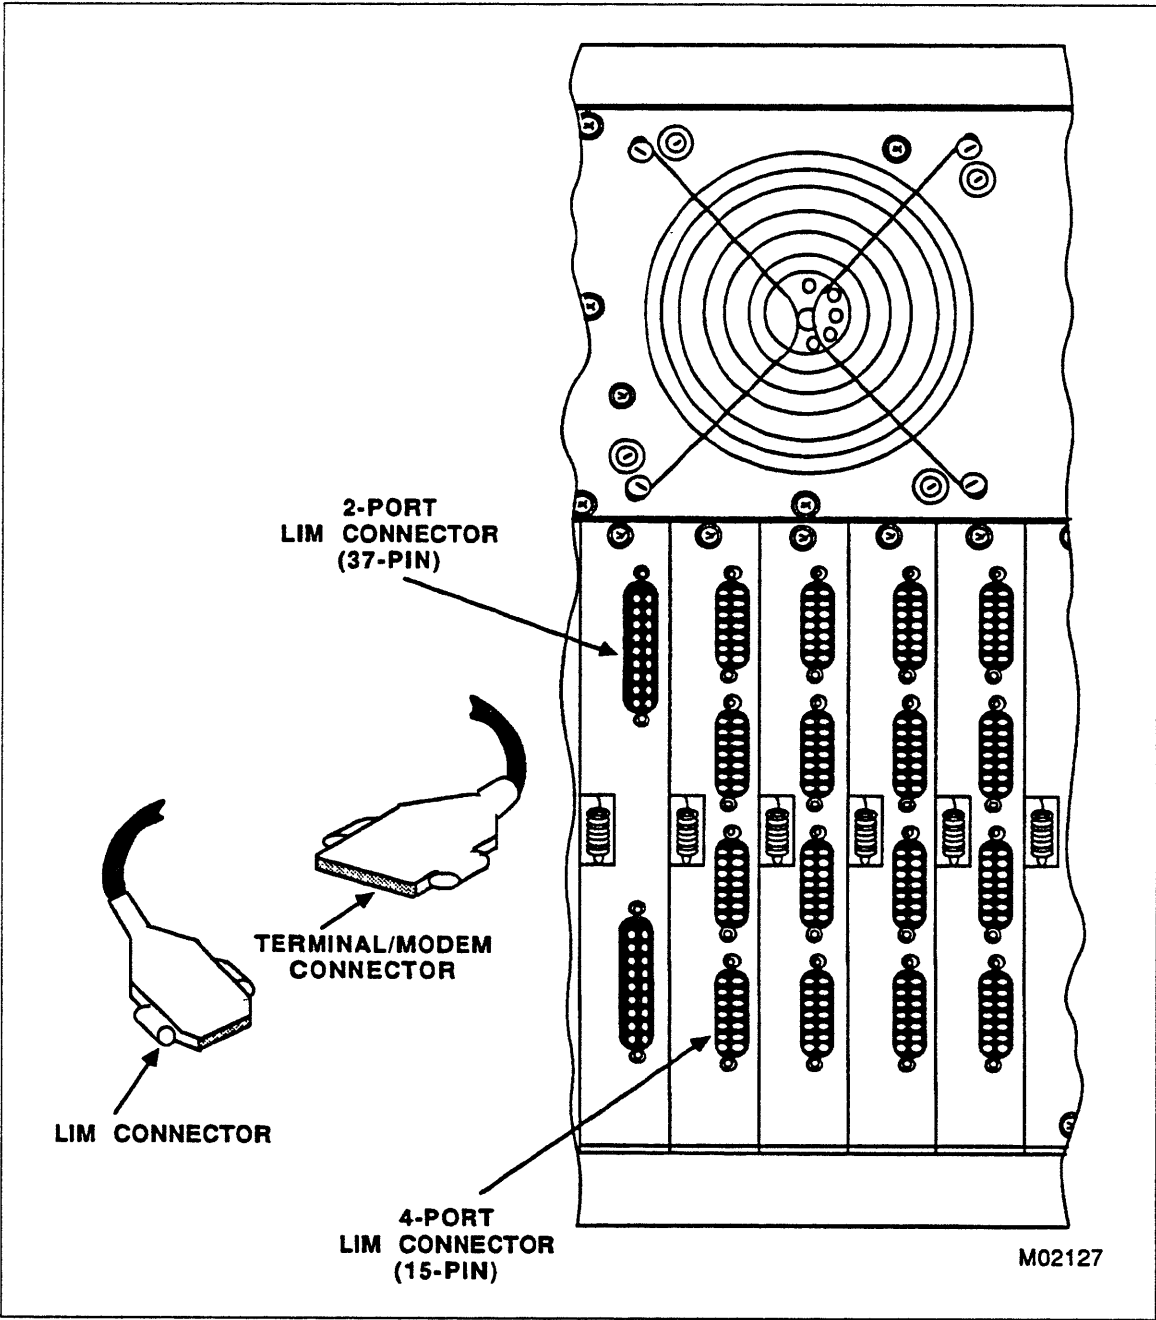

Figure 3-58. Installing RS-449 and 4-Port RS-232 LIM Cables
1. Connect the cable(s) to the 4-port LIM connectors shown in figure 3-58. Tighten the locking screws with a straight slot screwdriver.
1. Connect the cable(s) to the DI 2-port LIM connectors shown in figure 3-58. Tighten the locking screws with a straight slot screwdriver.